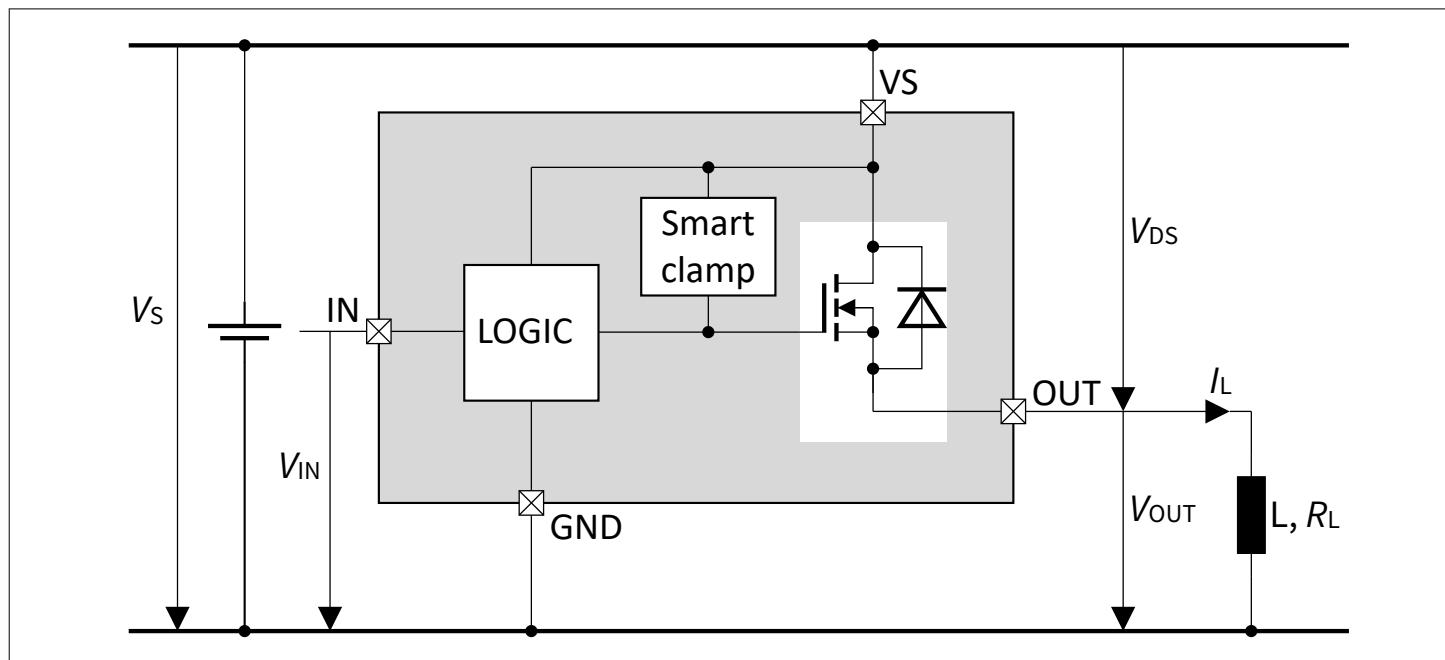
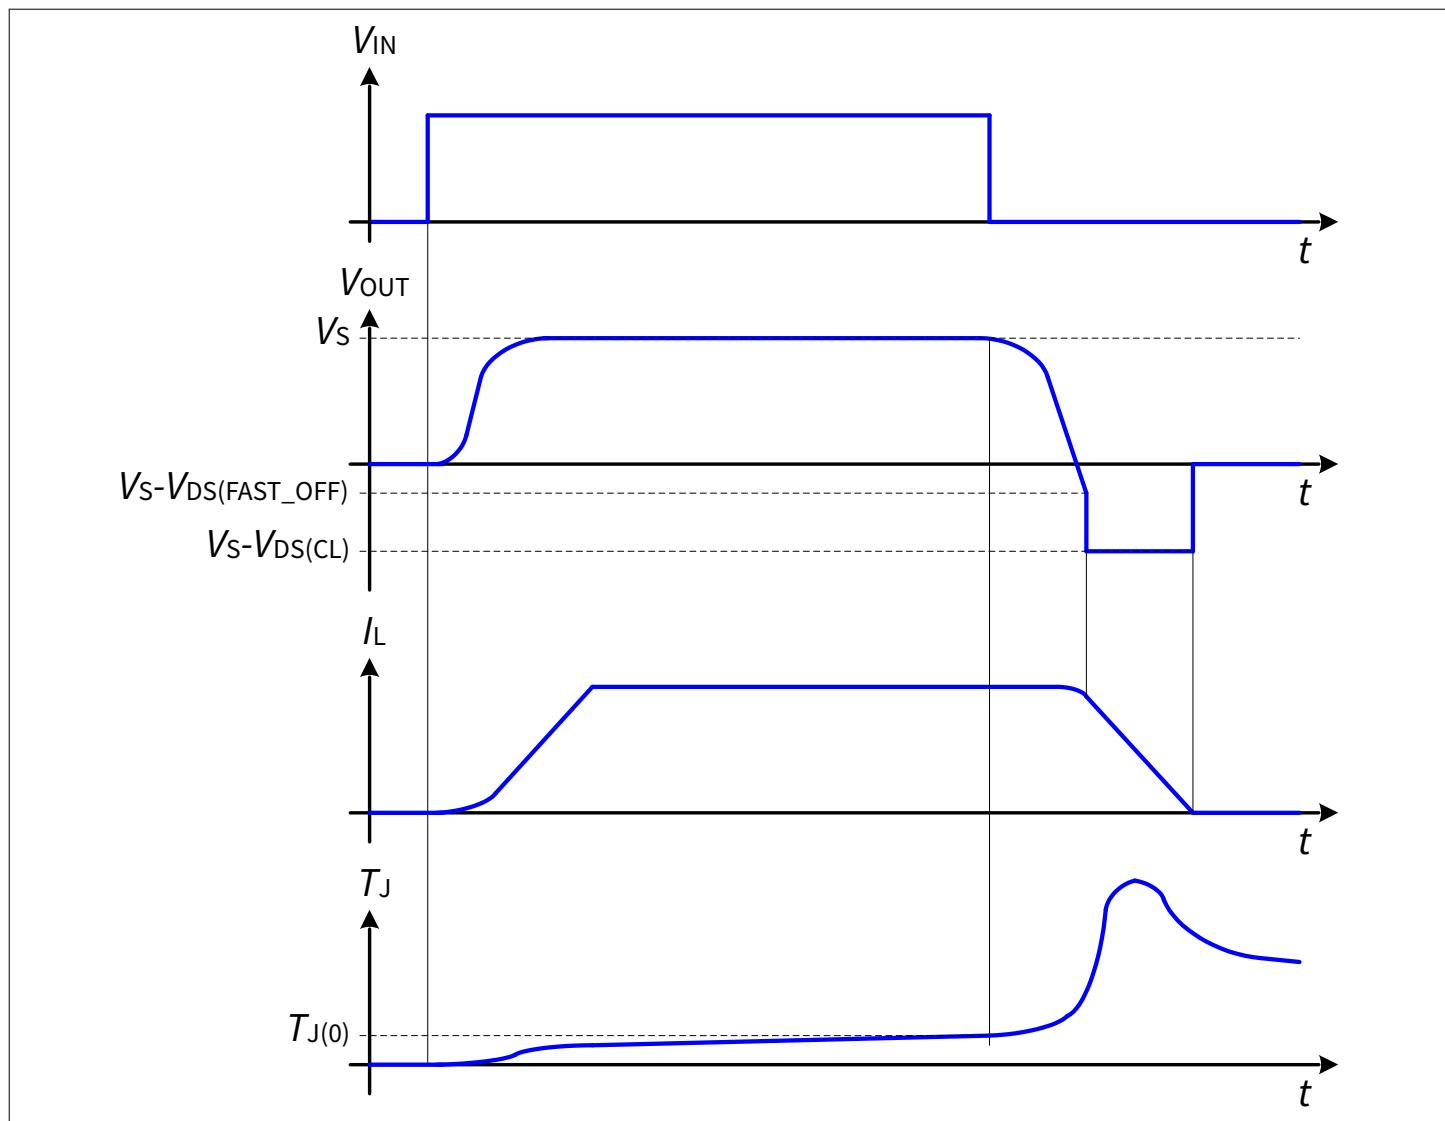

Figure 11 Output clamp
Figure 12 **Switching an inductance**
To prevent the destruction of the device due to high voltages, there is a smart clamping mechanism implemented that keeps negative output voltage to a certain level ($V_S - V_{DS(CL)}$). Please refer to Figure 11 and Figure 12 for details. Nevertheless, the maximum allowed load inductance remains limited.
The device features a fast switch off when driving an inductive load in order to increase the energy capability. The fast turn off is triggered when V_{DS} is higher than $V_{DS(FAST_OFF)}$. Please refer to Figure 12 for details.
- The device is turned off by applying $V_{IN} < V_{I(L)MIN}$. During the switch off operation, V_{OUT} drops below $V_S - V_{DS(FAST_OFF)}$. See Figure 12.